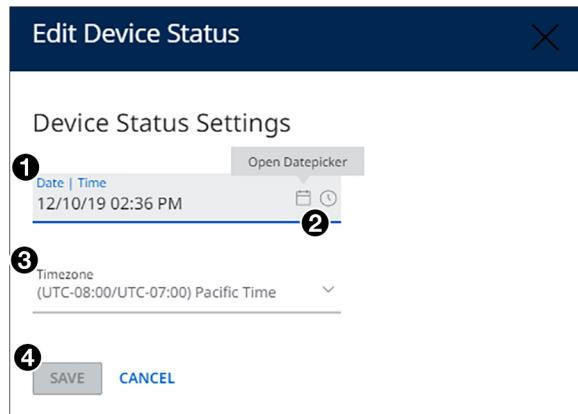

Figure 54. Edit Device Status Panel for Date and Time Setting
- **Date and Time** — In the **Date | Time** field (see figure 54, ①), either click on the hour and minute text fields and type in the time, or click the **Datepicker** or **Timepicker** icons (②) to display the following panels: